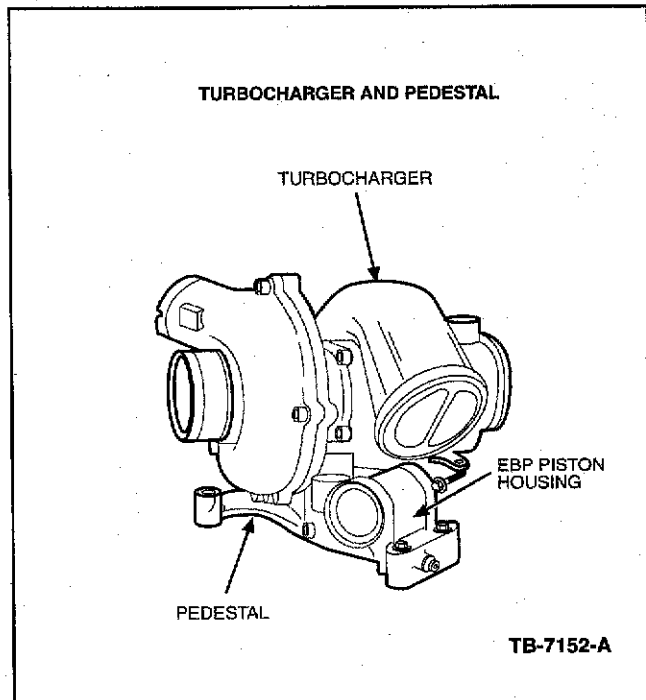

Figure 2 - Article 03-14-10
- The block-shaped pedestal has a visible ledge where the turbocharger mounts to the pedestal. The hourglass-shaped pedestal has no visible ledge (Figure 2).